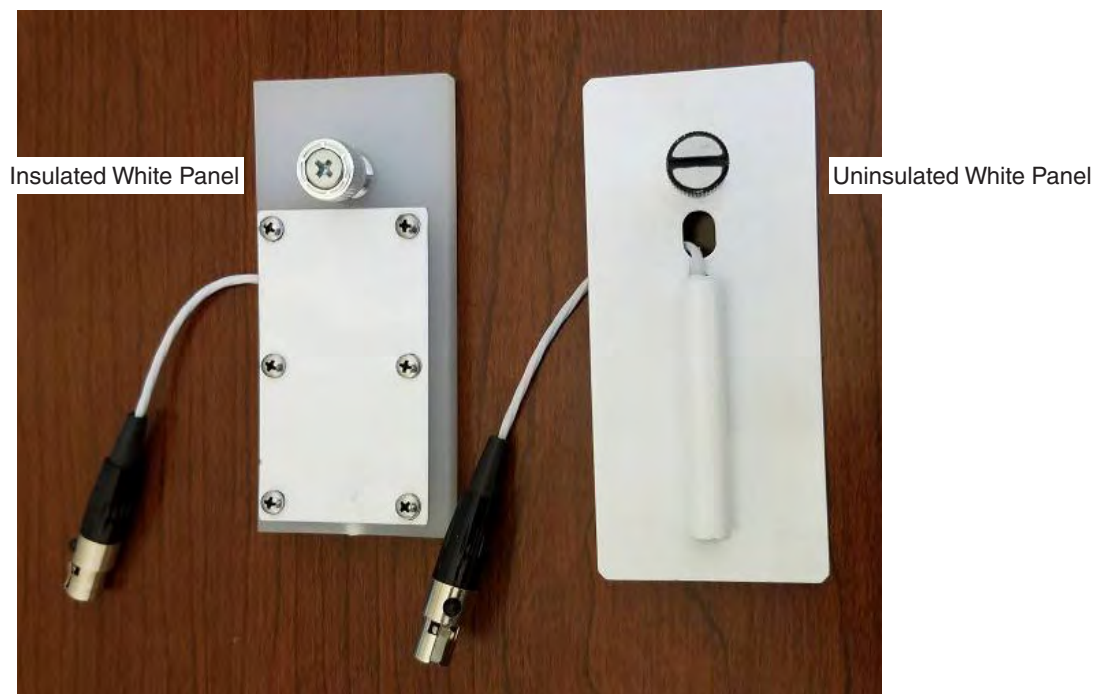

Figure 8.2a: White panel temperature sensors.
- The white panel temperature sensor for the Xe-2 is similar to the black panel but uses a different temperature sensor and connector (Figure 8.2a).